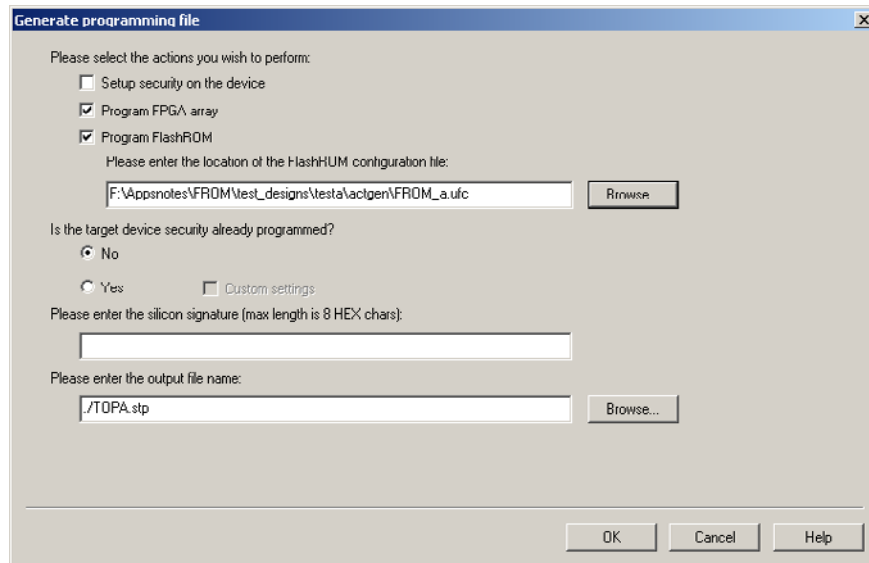
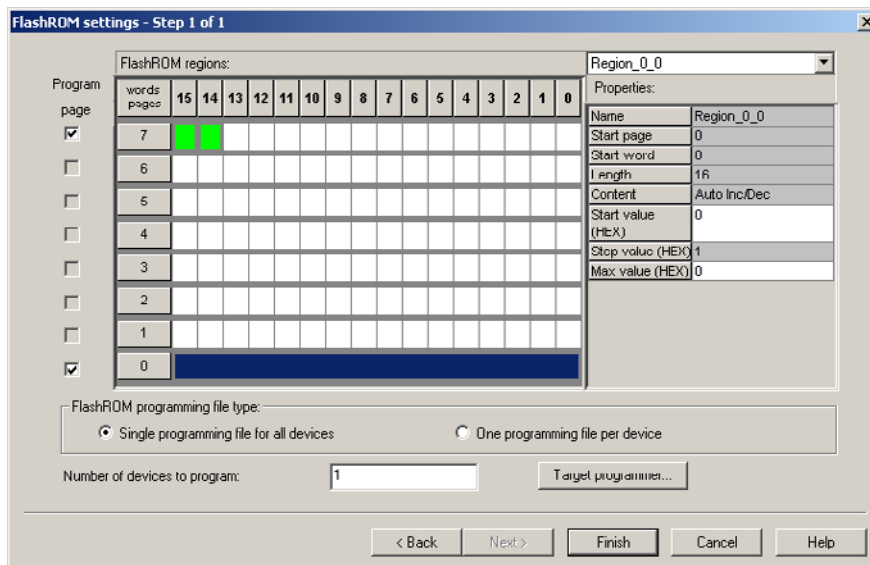

Figure 10 • Programming File Generator
Figure 11 • Setting FROM during Programming File Generation
Figure 10 on page 12 shows the programming file generator, which enables different STAPL file generation methods. When you select **Program FlashROM** and choose the UFC file, the FlashROM Settings window appears, as shown in Figure 11 on page 12. In this window, you can select the FlashROM
3. Select **Programming File** in Designer and open **Generate Programming File** (Figure 10 on page 12).
4. Select **Program FlashROM** and browse to the UFC file and select **Next**. The **FlashROM Settings** window appears, as shown in Figure 11 on page 12.